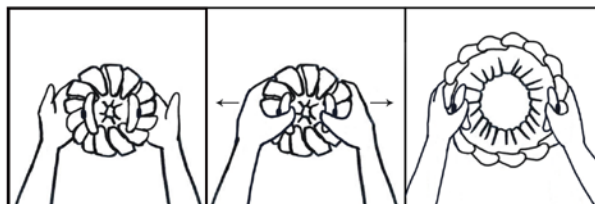

Figure 3. Deploy Upper Retraction Ring
- Grasp the device with fingers around outside of the upper retraction ring and thumbs on inside edge of the handles, as shown in Figure 3.